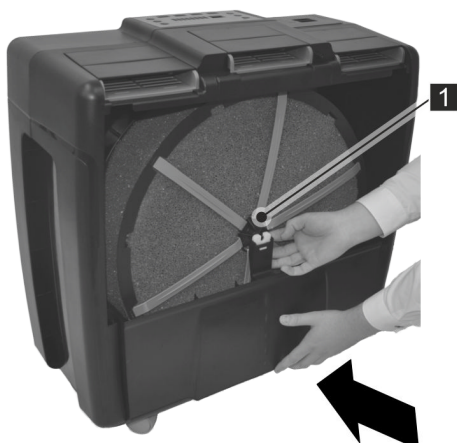

Fig. 18: Fixing the filter drum in place
3. → Press the water container in place and in doing so, fix the hub of the water drum in place with the mounting of the tank (Fig. 18/1).